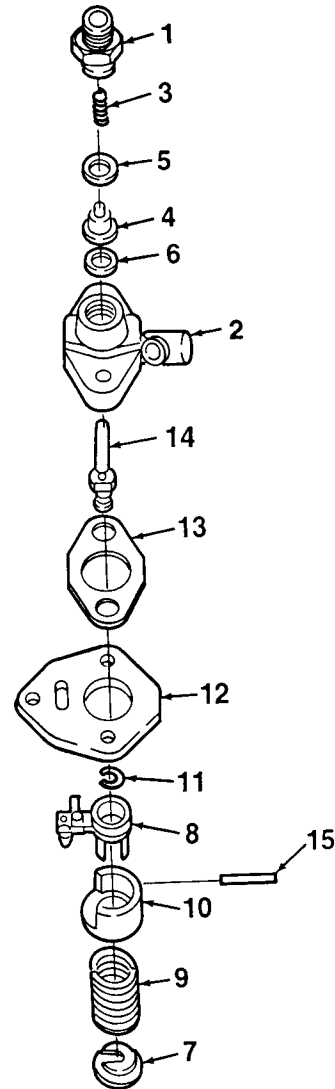

Figure 5-22. Fuel Injection Pump Removal
1. Remove valve holder (1, Figure 5-22) from body (2). Remove delivery spring (3).
2. Remove delivery valve (4) and gaskets (5, 6) from body (2). Discard gaskets.
3. Disengage spring seat (7) from control lever (8). Remove spring (9), pin (15), spring seat (10), and control lever (8) from body (2).
4. Remove snap ring (11). Remove plate (12), gasket (13), and plunger (14) from body (2). Discard gasket.
1. Inspect delivery valve (4, Figure 5-22) and plunger (14) for scores, pitting, or wear. Replace if damaged or worn.
1. Insert plunger (14, Figure 5-22) into body (2). Secure using snap ring (11).
2. Install new gasket (13) and plate (12) onto body (2). Install control lever (8) with tab on lever mating to hole on plate (12).
3. Install spring seat (10) and pin (15). Install spring (9) and spring seat (7).
4. Install new gaskets (5, 6) onto delivery valve (4). Insert spring (3) and delivery valve into valve holder (1).
5. Install valve holder (1) into body (2). Tighten holder to 22 to 25 ft-lbs. (300 to 350 kg-cm).